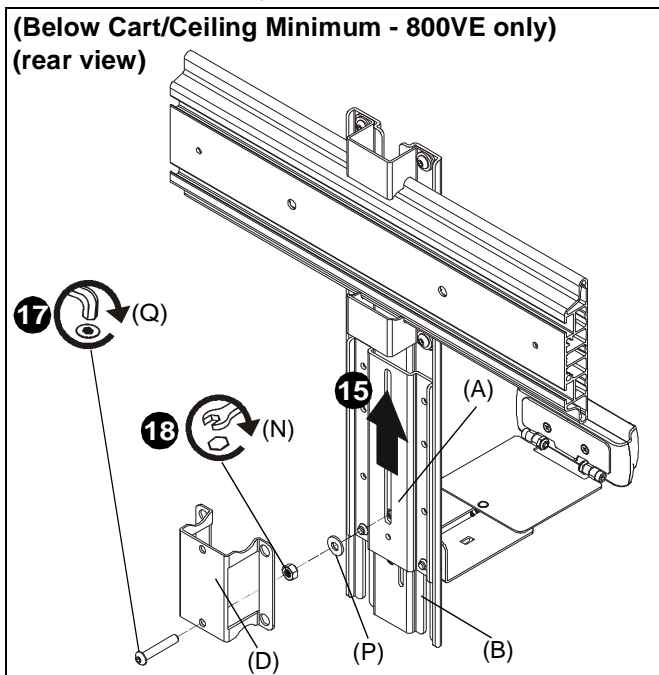

Figure 16
17. (For **minimum extension - 800VE only**) Use 1/4-20 x 1 1/2" button head cap screw (Q) and 1/4-20 hex nut (N) and large washer (P) to secure extender box holder (D) and upright bracket (A) to main bracket (B). (See Figure 16)
18. (For **minimum extension - 800VE only**) Tighten 1/4-20 hex nut (N) to fully secure upright bracket (A) to main bracket (B). (See Figure 16)